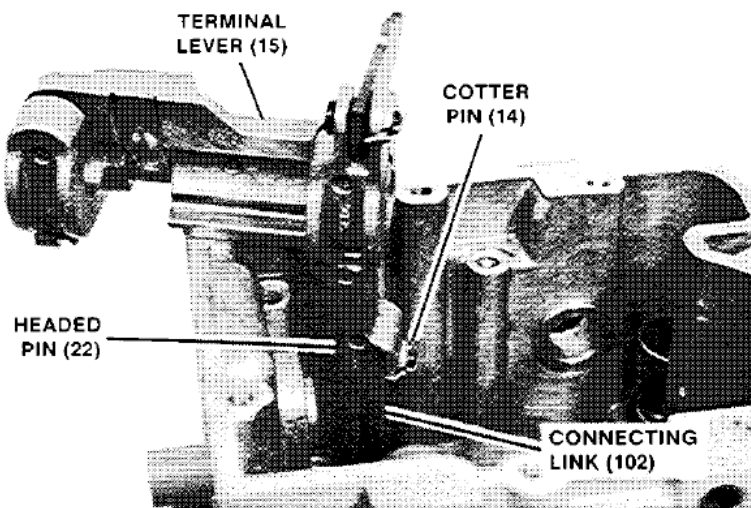

Figure 5-4. Terminal Lever Removal
5. Remove two screws (1) from the terminal lever (15). Pull output shafts (25) from the terminal lever (15) and case (26).
6. Lift terminal lever (15) up and rotate it to rest on the governor case. Remove cotter pin (14) and headed pin (22) to separate the terminal lever from servo connecting link (102). Remove seat (18) and spring (19) (Figure 5-4).